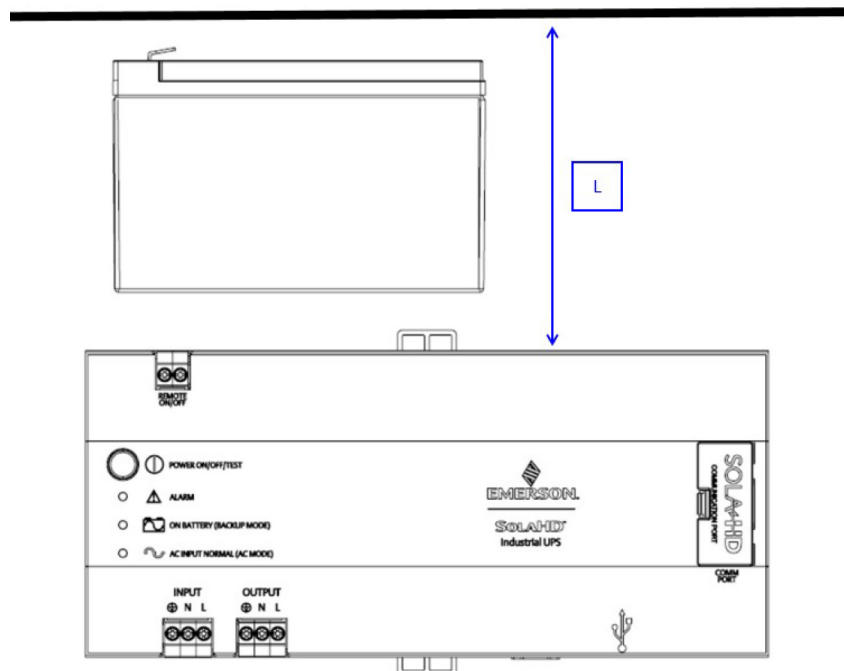

Figure 10: Battery Replacement Space
- If the product is due for recharge, please follow the wiring diagram (Figure 10) to recharge the SDU 24-BATB.